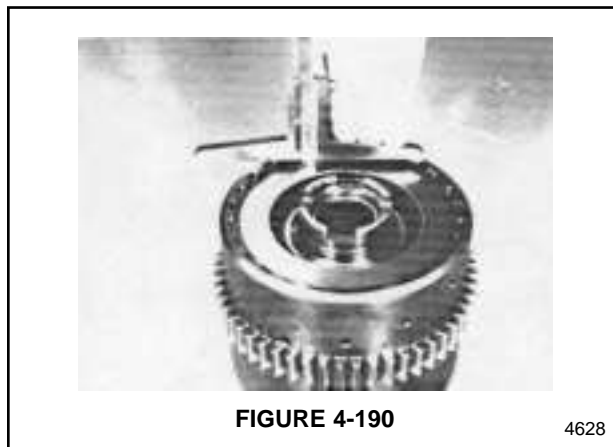

FIGURE 4-190
10. Measure the distance from the top of the clutch carrier to the backing plate. See Figure 4-190. In the example shown, this measurement was 5.40 mm (.2125"). This is measurement A.